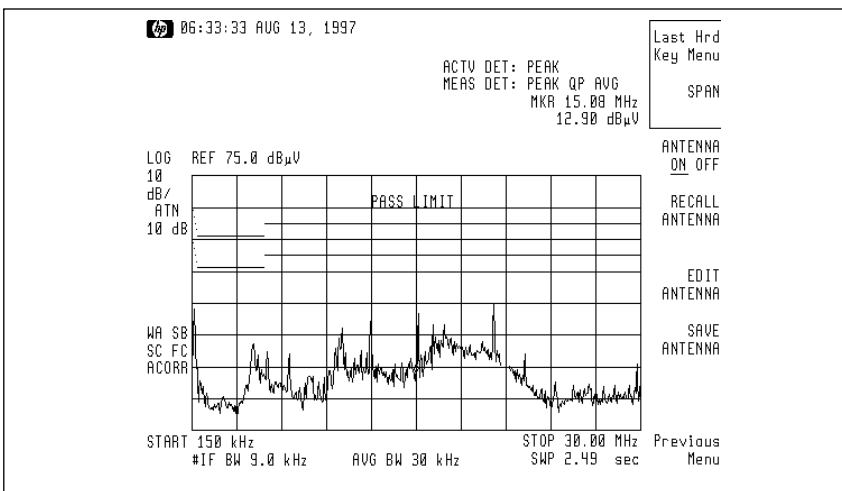

Figure 7: A conducted test in an ambient environment.
At this point the EMI receiver is set up with all the correct parameters, including bandwidth, frequency range, LISN compensation and limit line. There is one more thing to consider before starting conducted measurements, which is the effect of the ambient environment on the results. The power cable between the LISN and the EUT can act as an antenna, which can cause false EUT responses on the display. To test that this phenomenon is not occurring, switch the EUT off and check the display to insure that the noise floor is at least 6 dB below the limit line. (See Figure 7).
1. Press [CTRL] in the Windows section then use <ZONE CENTER> and <ZONE SPAN> to zoom in on the signals of interest in the active trace. (See Figure 7).